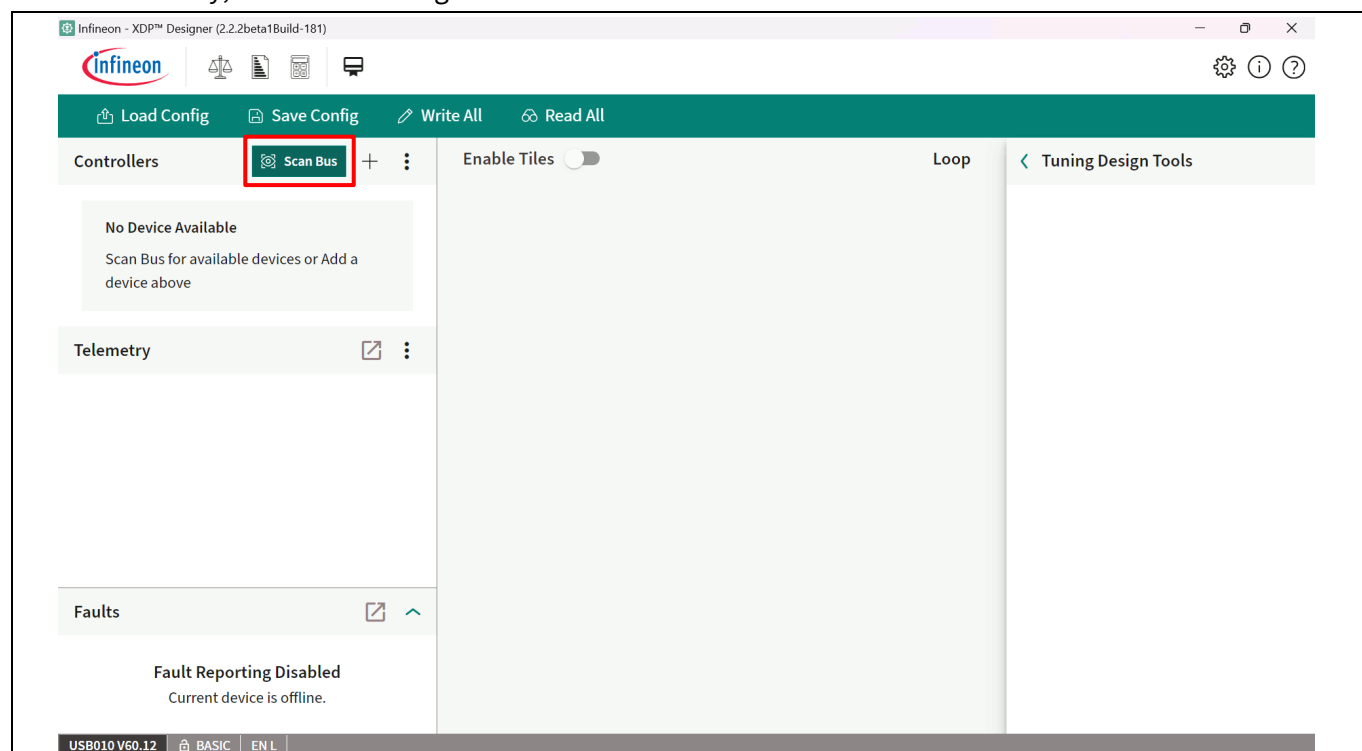

Figure 15 XDP720-001 detection
1. Click Scan Bus, as shown in Figure 15